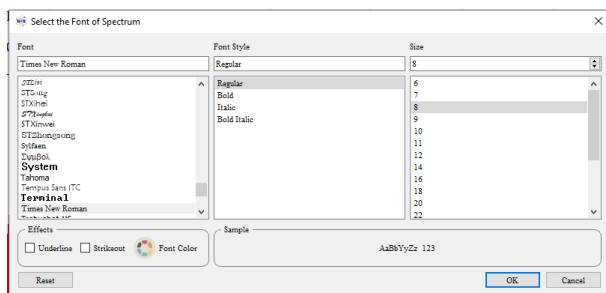

Fig.20: Font Settings Interface
- ① The spectrum can be displayed as a histogram, scatter plot, or line chart.
- ② Font - You can set the font for measurement information and the spectrum, including font format, font style, size, underline, strikethrough, and font color, as shown in Fig.20.